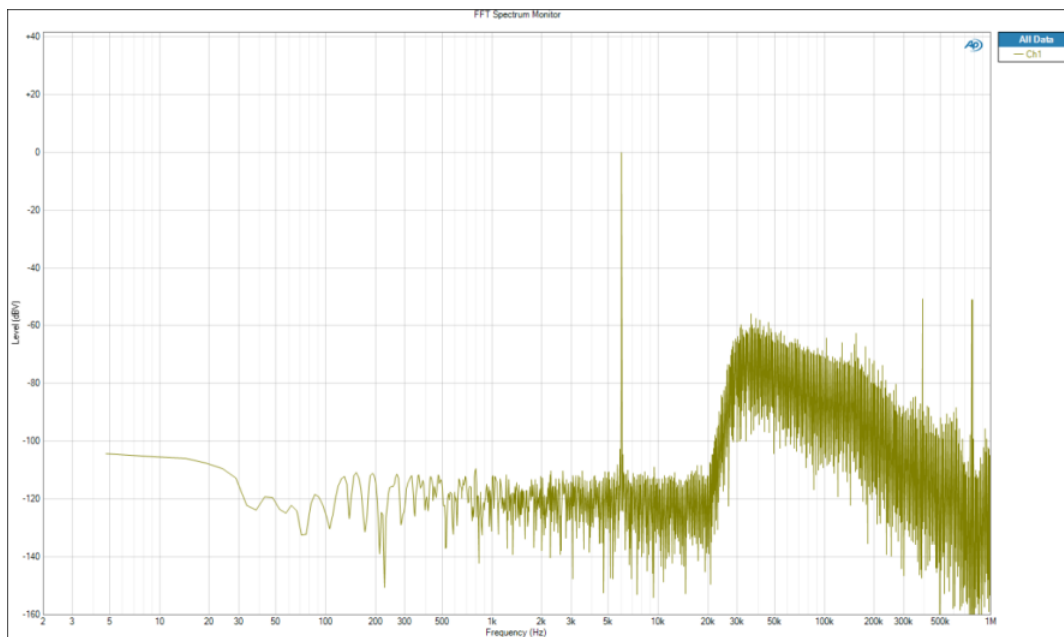

Figure 4: Spectrum of the output signal with 6kHz - 0dBV input. Harmonic distortion ratio >100dB.
For a real-world test, the AX5689 was used in combination with a few Texas Instruments (TI) and STMicroelectronics chips (the TAS5558, the TAS5624A, the TAS5342A, and the STA516B, respectively). Looking at **Figure 4**, we see the THD+N vs. Pout graph for 100 Hz, 1 kHz, and 6 kHz at 4 Ω for both the STA516B and the TAS5342A. The first part of the graph is determined by the noise floor. Then when the amplifier starts to clip, the distortion starts to rise. No traditional Class-D artifacts can be seen.
Figure 4: The AX5689 + STA516B or AX5689 + TAS5342A Pout in 4 Ω PVDD = 28 V, $2 \times$ LLADC per BTL, BD mod. A difference between the STA516B and the TAS5342A could not be observed.